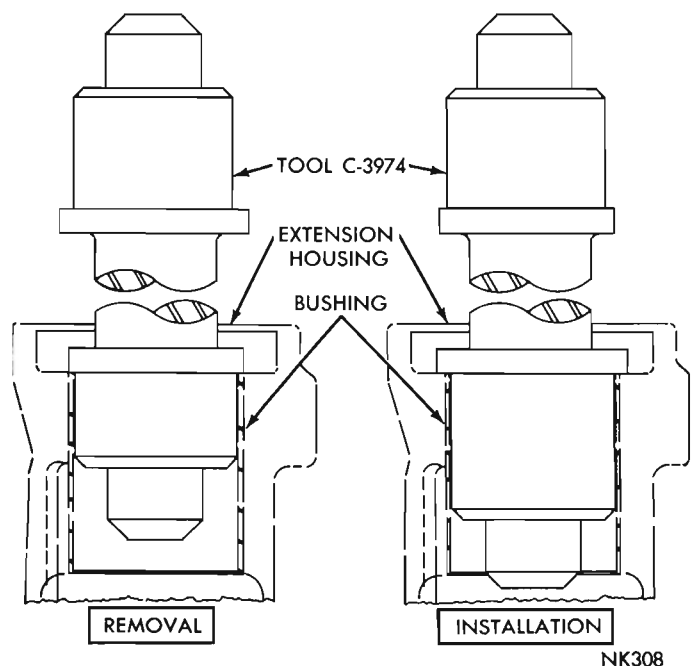

Fig. 78—Replacing Extension Housing Bushing
(1) Pry or drive the oil seal out of the extension housing with a long blunt drift. Be sure not to mar the oil seal surface in the housing.
(2) Press or drive out bushing with Tool C-3974 (Fig. 78).
(3) Slide a new bushing on the installing end of Tool C-3974. Align the oil hole in bushing with the oil slot in the housing, then press or drive the bushing into place (Fig. 78).